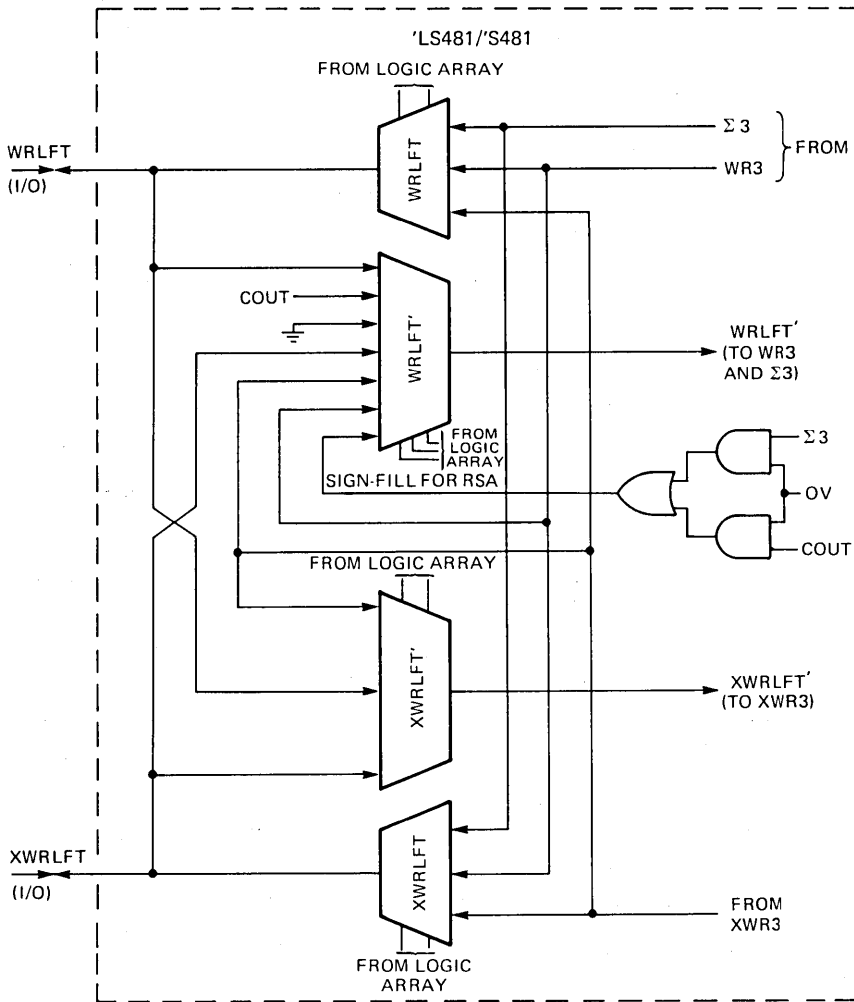

FIGURE 12 – SUM-BUS, WR, XWR MSB SHIFT TRANSFER MULTIPLEXERS
The MSB shift transfers are accomplished by the WRLFT, XWRLFT input/output multiplexers and the WRLFT', XWRLFT' sum-bus/register MSB input multiplexers. All four multiplexers, and the impedance of the 3-state I/O lines of the WRLFT and XWRLFT multiplexer outputs are under control of the resident operation code and the relative position control (POS). Data paths of the multiplexers are illustrated in Figure 12, and bit transfers with respect to each of the shift operations are enumerated in Tables 11 through 14.
- g. Sign fill in for RSA (see Figure 12)